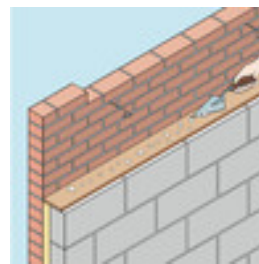

Figure 3
4. Before installing each course of batts, excess mortar must be removed from the inside face of the leading leaf, and mortar droppings cleaned from the exposed edges of the batts. This is made easier by the use of a cavity board (Figure 3). This sequence should be maintained progressively until it reaches the wall plate or cavity tray. It is important for the insulation to be carried to the highest level possible. (Figure 6).